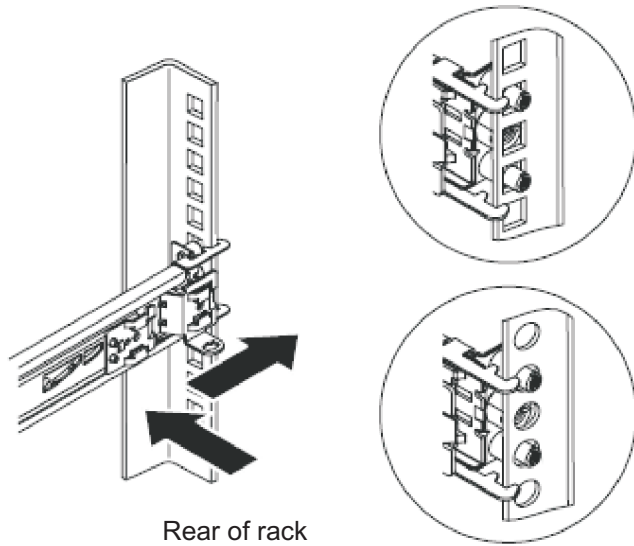

Figure 48. Installing the rear end of the slide rails
3. Install the rear end of the slide rails, as shown in Figure 48 on page 71.